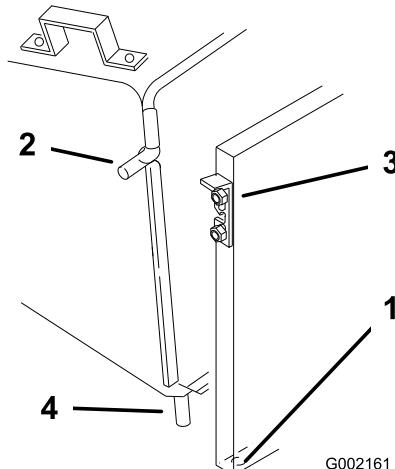

Рисунок 13
6. Insert the lower pins of the bagger frame into the holes on the back plate (Рисунок 13).
7. Lift the latches and slide the frame side pins into them (Рисунок 13).
4. Insert the lower pins of the bagger frame into the holes in the back plate (Рисунок 13).
5. Lift the latches and slide the frame side pins into them (Рисунок 13).
5. Insert the lower pins of the bagger frame into the holes in the back plate (Рисунок 13).
6. Lift the latches and slide the frame side pins into them (Рисунок 13).